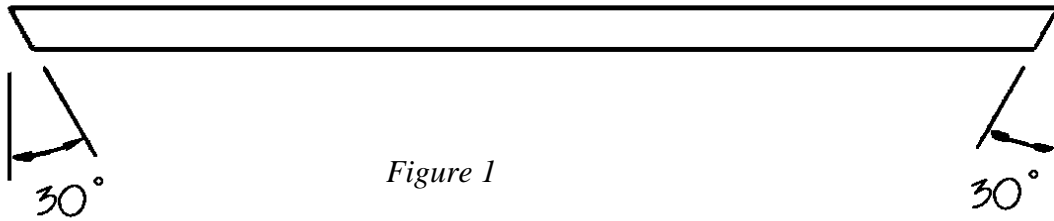

Figure 1
2. Cut two Posts (A) from 4 x 4 pressure-treated pine, each measuring 16 feet. Place one Post (A) in each hole and set in place, using a bag of mixed concrete for each Post (A). Make sure that both posts are plumb. Secure Posts (A) temporarily by using a bracing board on two sides of the posts. Let cement set up overnight.
3. Cut 2 Roof Supports (B) from 2 x 6 pine, each measuring 143 inches long. For a decorative (but optional) touch, miter both ends of the Roof Supports (B) at opposing 30-degree angles, as shown in *Figure 1*.